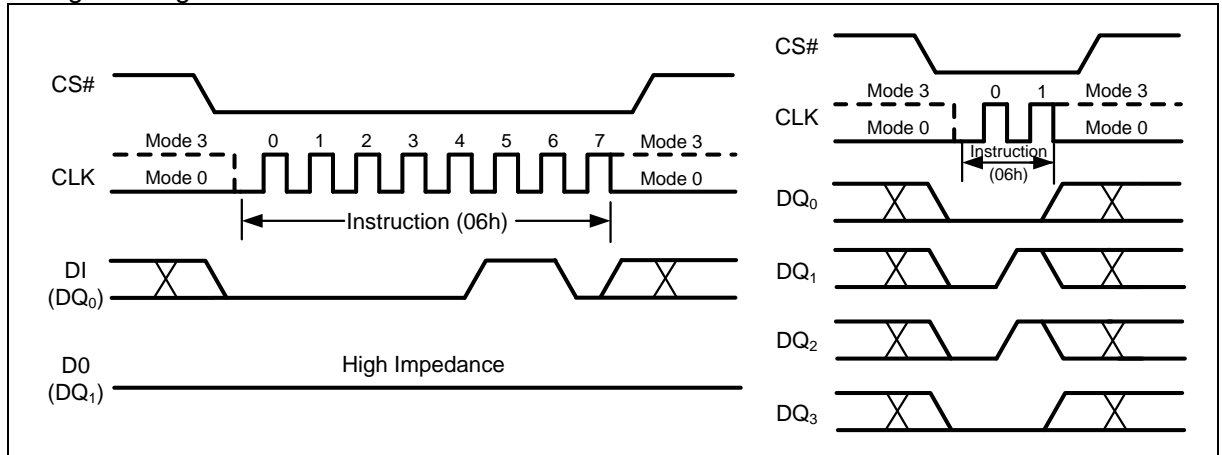

Figure 9 Write Enable Instruction for SPI Mode (left) or QPI Mode (right)
The Write Enable (WREN) instruction (Figure 9) sets the Write Enable Latch (WEL) bit in the Status Register to a1. The WEL bit must be set prior to every Page Program, Quad Page Program, Sector Erase, Block Erase, Chip Erase, Write Status Register and Erase/Program Security Sectors instruction. The Write Enable (WREN) instruction is entered by driving CS# low, shifting the instruction code “06h” into the Data Input (DI) pin on the rising edge of CLK, and then driving CS# high.